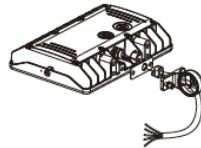

Fig. 1
1. Pass the wire through the metal plate, rubber mat, and bracket (Fig. 1).